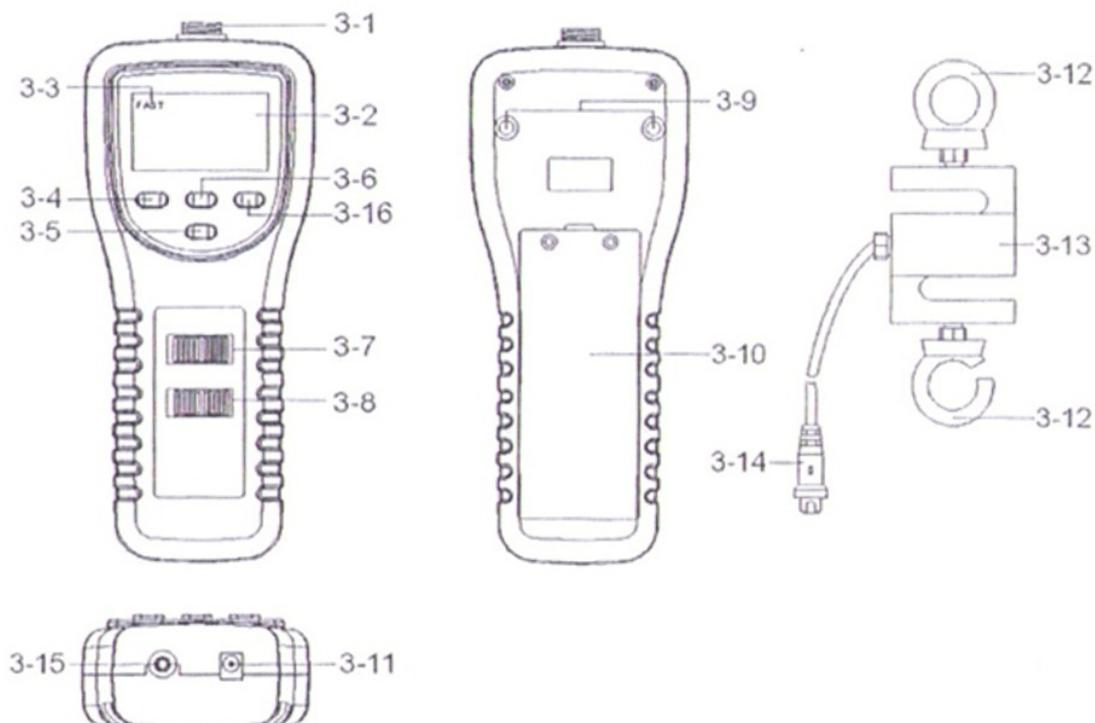

Fig. 1
- 2) When make the measurement, the " Sensor " ( 3-13, Fig. 1 ) should be on a line with measuring object.
- 3) Rotate the sensor's body is prohibited. Some certain angles between " Sensor " ( 3-13, Fig.1 ) & measuring object are not allowed.
- 1) Connect the " Sensor Plug " ( 3-14 ) to the " Sensor socket " ( 3-1, Fig.1 ).
Slide the " Power Off/On/Peak Hold Switch " ( 3-8, Fig. 1 ) to the " On " position.
- 2) Determine display unit of Kg, LB or Newton by selecting " Kg/LB/Newton Unit Switch " ( 3-7, Fig. 1 ).
- 3) Connect " Sensor " ( 3-13, Fig. 1 ) with the " Measuring Object " via the " Sensor hook " ( 3-12, Fig. 1 ) in straight line.
- 4) " Zero Adjust " by pushing " Zero Button " ( 3-6, Fig. 1 ) before every measurement.
*\* During the measurement, if intend to change the display direction, just push the " Reverse Button " ( 3-5, Fig. 1 ) once.*
- \* There are two kind sampling time of display, FAST and SLOW. Push the " FAST/SLOW Button " once ( 3-4, Fig. 1 ), if the upper left corner of LCD shows " FAST " ( Fast Indicator, 3-3, Fig. 1 ), then the display reading is under the operation of fast sampling time.
- \* If the upper left corner of LCD not show the " Fast Indicator " ( 3-3, Fig. 1 ), the display reading is under the slow sampling time.
The meter can measure the peak value of force both of tension & compression operation. The operation procedures of Peak Hold Measurement are same as above " 4-2 Normal Measurement " but should slide the " Power Off/On/Peak Hold Switch " ( 3-8, Fig. 1 ) to the " PEAK H. " position.
Slide the " Power Off/On/Peak Hold Switch " ( 3-8, Fig. 1 ) to the " On " position will cancel the peak hold function.
During the measurement, press and hold ( > 2 seconds ) the " \* Button " ( 3-16, Fig. 1 ) until LCD Back Light is ON, then it will be off after a period time.
- 2) Take out the battery cover ( 3-10, Fig. 1 ) away from the instrument and remove the batteries.
The instrument features an RS232 output via 3.5 mm Terminal ( 3-15, Fig. 1 ).